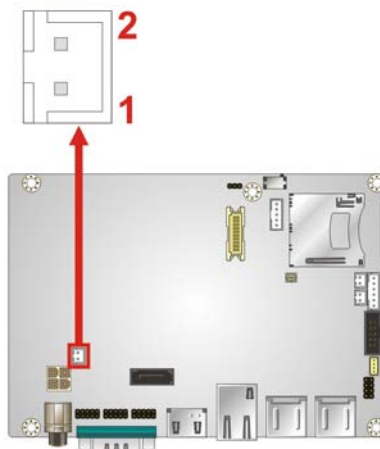

Figure 3-2: 5 V SATA Power Connector Location
- CN Location:** See **Figure 3-2**